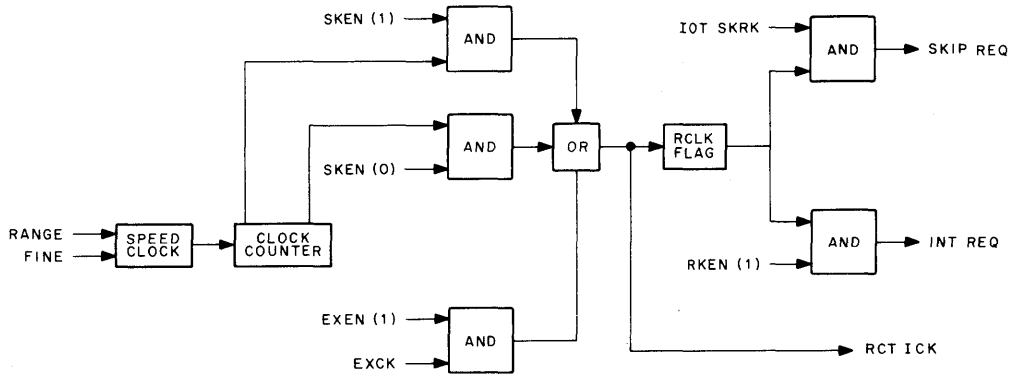

Figure 3-4 RC Clock Flag Logic
As shown in Figure 3-4, if the flag (flip-flop RCLK) is cleared and SKEN (1) is present (from the Enable Register, caused by IOT OTEN and AC0(1)), then the RCLK flag will be set every 32-clock pulses (enabled by IOT OTEN and AC bit 10(1) in the Enable Register). If SKEN (0) is present (from the Enable Register by IOT ZTEN, which commands reset if AC bit is 0, and AC bit 0 (0), the RCLK flag is set at the count of four in the counter.